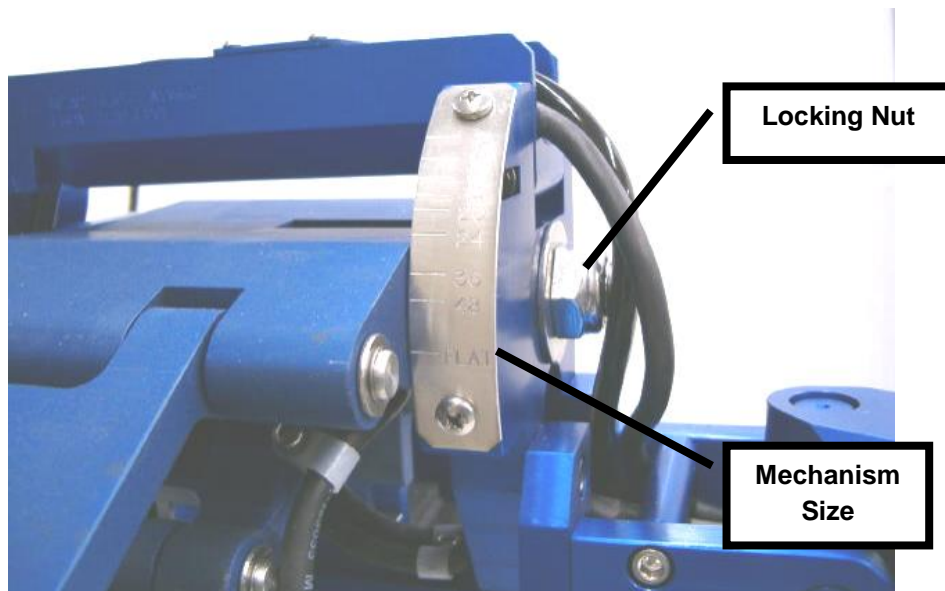

FIGURE 21: VEHICLE CONFIGURATION SIZE INDICATOR
1. Adjusting the various configurations has been made relatively simple. A large mechanism locking nut is located at the rear of the vehicle (see Figure 21). To change configurations, back the nut off until loose. Take hold of the left and right tracks and pivot them in or out. It takes only a bit of practice to do. Both tracks will pivot at the same time. Read the current configuration size from the indicator strip shown in Figure 21 above.